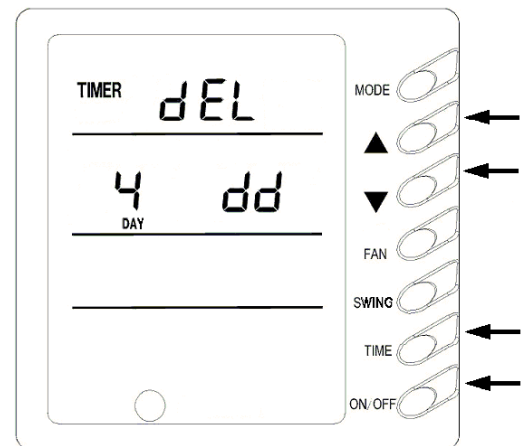

Fig.15
- ❖ In deleting timing status, press ▲ or ▼ button to select one day of a week, and then press TIMER button to confirm ,in which case, "dd" is displayed .The day also can be canceled by pressing TIMER button without "dd" displayed. At last, press ON/OFF button to quit the setting after finish.(Fig.15)